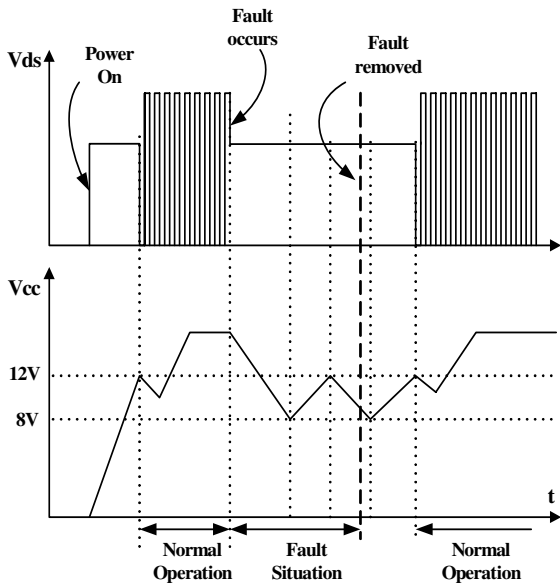

Figure 19. Auto Restart Operation
3. Protection Circuit: The FSCM0565R has several self protective functions such as over load protection (OLP), over voltage protection (OVP) and thermal shutdown (TSD). Because these protection circuits are fully integrated into the IC without external components, the reliability can be improved without increasing cost. Once the fault condition occurs, switching is terminated and the SenseFET remains off. This causes V_{cc} to fall. When V_{cc} reaches the UVLO stop voltage of 8V, the current consumed by the FSCM0565R decreases to the startup current (typically 25uA) and the current supplied from the DC link charges the external capacitor (C_a) that is connected to the V_{cc} pin. When V_{cc} reaches the start voltage of 12V, the FSCM0565R resumes its normal operation. In this manner, the auto-restart can alternately enable and disable the switching of the power SenseFET until the fault condition is eliminated (see Figure 19).